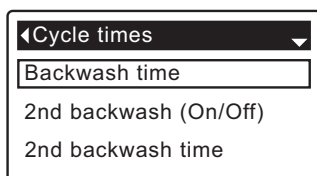

FIG. 71
5. Press the SELECT (O) button to display the Cycle times menu (See Figure 71).
9. Press the SELECT (O) button. The display will go back to the Cycle times menu (Figure 71).